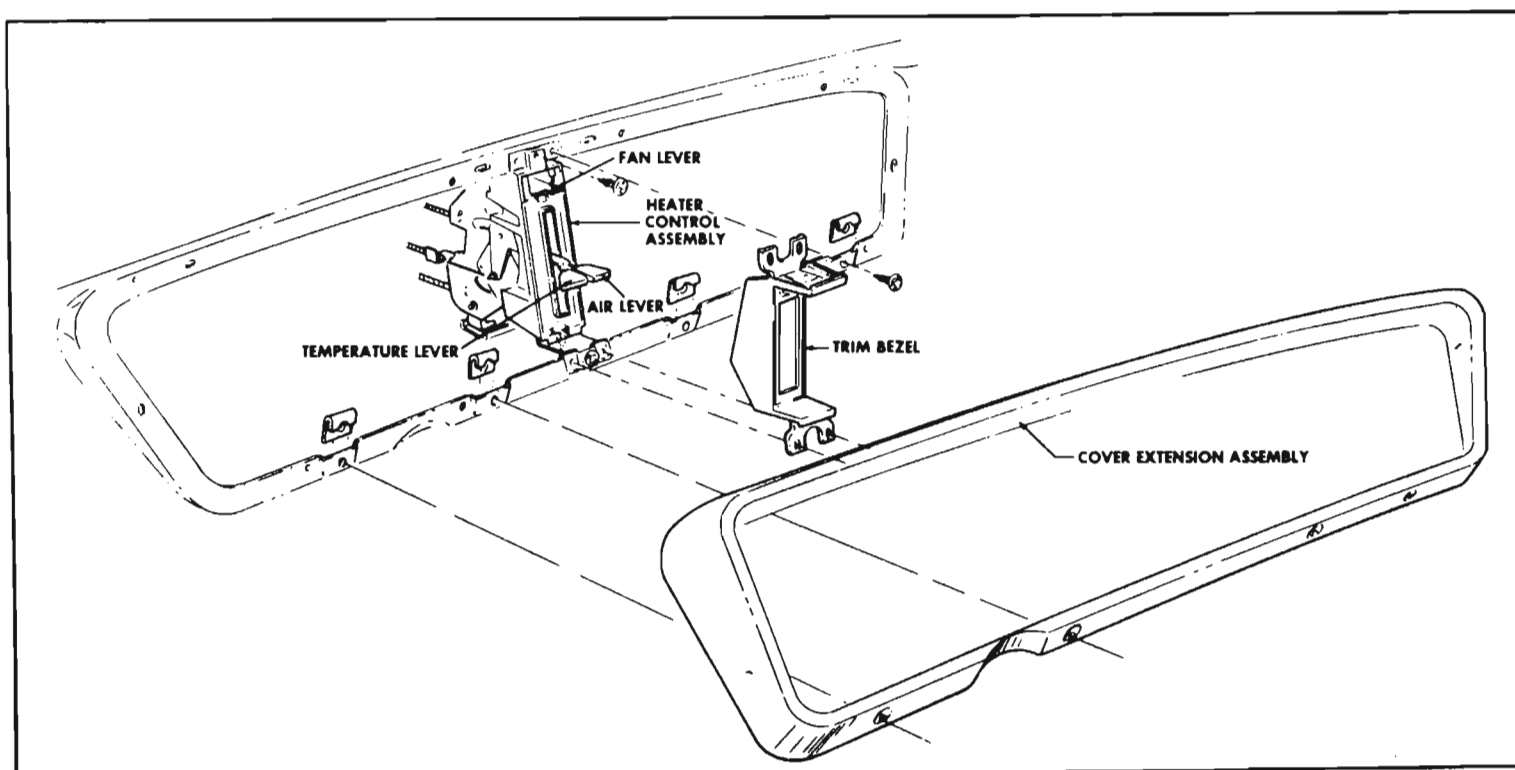

Figure 11-15—Heater Control Assembly Removal
1. Remove five screws from instrument panel nose trim pad and lift off nose trim pad (see Figure 11-15).